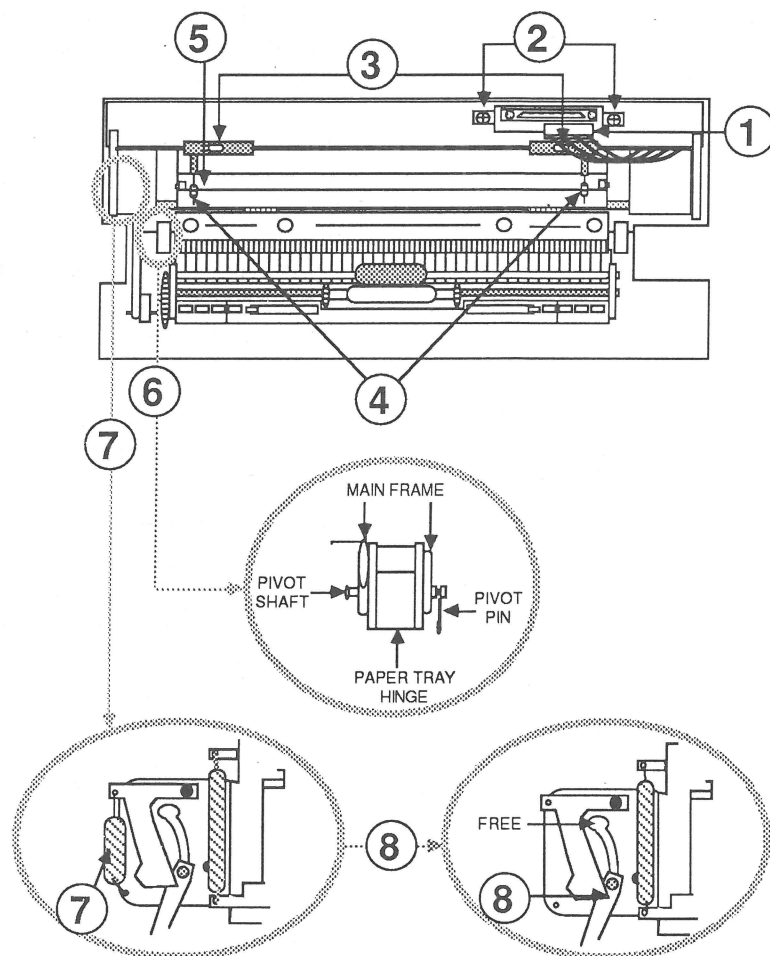

FIGURE 1
2. Unplug the connector (Figure 1, #1).
3. Remove the two screws (Figure 1, #2) that hold the connector plate and mounting springs.
4. Remove the two screws (Figure 1, #3) from the metal clamps that hold the rear housing. Remove the rear housing.
5. Remove the paper guide springs (Figure 1, #4).
6. Remove the paper guide (Figure 1, #5).
7. Remove the two pivot pins. One is on the left and one is on the right side of the SheetFeeder (Figure 1, #6, shows the left side).
8. Use a small flathead screwdriver to gently pry the two pivot shafts out. One is on the left and one is on the right side of the SheetFeeder (Figure 1, #6, shows the left side).
9. Lift the plastic paper tray hinge (Figure 1, #6) away from both sides. Do not attempt to separate the housing from the paper tray until after the next step.
10. Lay the SheetFeeder right-side down. Locate and remove the spring (Figure 1, #7) on the left side of the SheetFeeder.
11. Slide up the paper tray detent plate (Figure 1, #8) to free it from the frame. Gently pry the plate loose.
1. Position the paper tray on the housing. Put the paper tray detent plate (Figure 1, #8) into the circular opening in the frame. Slide the plate down into position.
2. Replace the spring (Figure 1, #7) on the left side of the SheetFeeder.